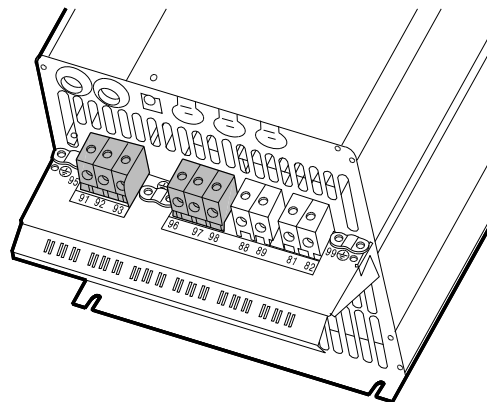

Fig. 19 Mains and motor connection, C3
1. Connect the ground conductor to terminal 95 (PE). See figures 19 and 20.
1. Connect the ground conductor to terminal 99 (PE). See figures 19 and 20.
2. Connect the motor conductors to terminals 96 (U), 97 (V), 98 (W).